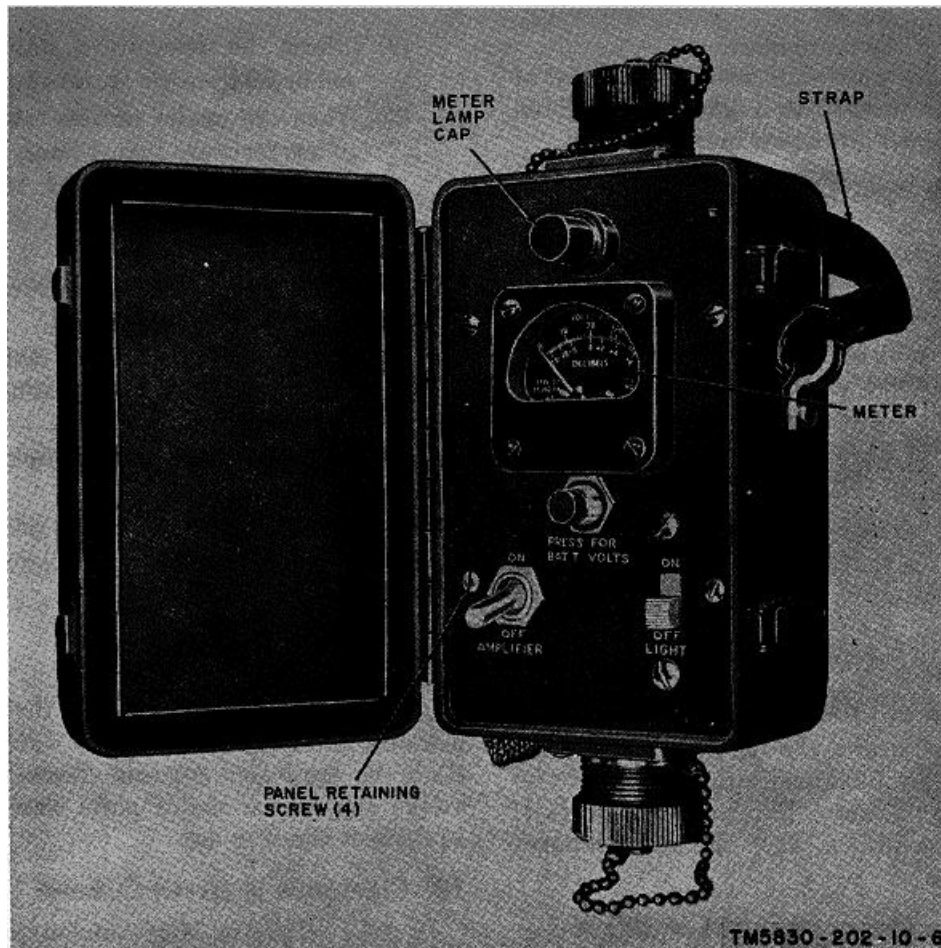

Figure 6. Public Address Set Control C-2566/UIH-1.
*e. Control Unit* (fig. 6). The control unit connects, through the cables (f below), the microphone, telephone, or reproducer inputs to the audio amplifier. It contains a variable intensity meter lamp to permit viewing the built-in meter during blackout operations. A strap is attached for carrying or securing the control unit.
When the equipment is connected for use with a microphone, see that the AMPLIFIER switch (fig. 6) on the control unit is set to the OFF position. If this switch is left in the ON position, the amplifier will operate continuously and drain the batteries.
b. *Control Unit* (fig. 6).
- (1) Turn on the reproducer.
- (2) Adjust the reproducer output control to approximately midrange.
- (3) Set the AMPLIFIER switch (fig. 6) to the ON position.
- (4) Adjust the reproducer output level control for the desired loudspeaker output.
- (2) Inform the transmitting station that the public address set is turned off.
- (3) When the public address set will be out of use for more than 1 hour, perform the shut-down procedure (par. 15).
**14. Telephone Input Operation (fig. 6)**
1	Set AMPLIFIER switch (fig. 6) to OFF position (microphone input only).